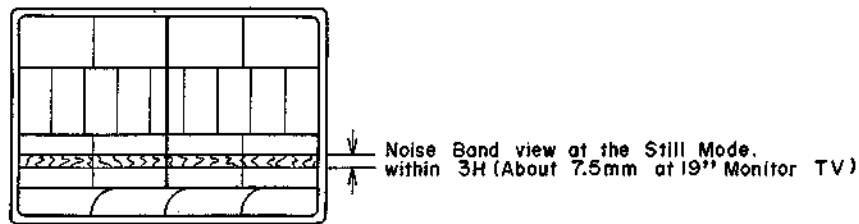

Fig. 4-12
- 1) Playback the reference tape in the Still mode and confirm that the noise bandwidth shown in Fig. 4-12 is within 3H (approx 7.5 mm).
(6) Slip Ring and Brush Adjustment